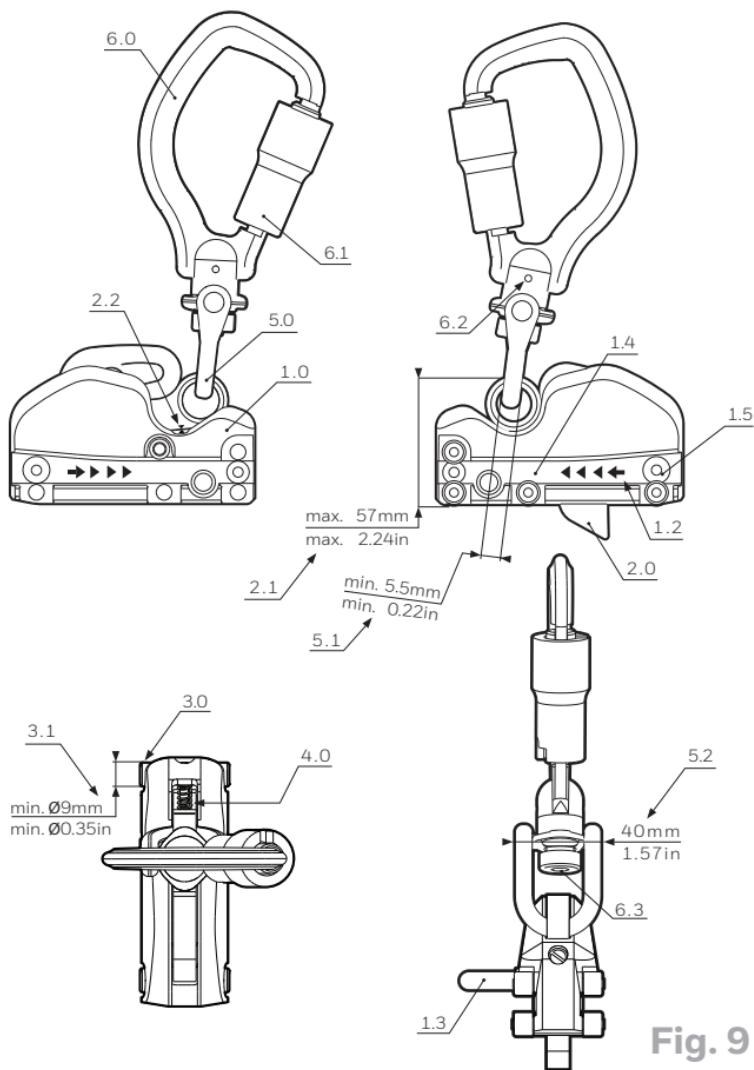

Fig. 9
- 2.2.4** Before each use it is necessary to check that all components of the fall arrester are moving freely, especially the safety catch, the shock absorber must not be deformed. To check, lift the catch nose to reveal the fall indication arrows (see **Fig. 9** detail 2.2). Fall indication arrows must be aligned and pointing to each other.